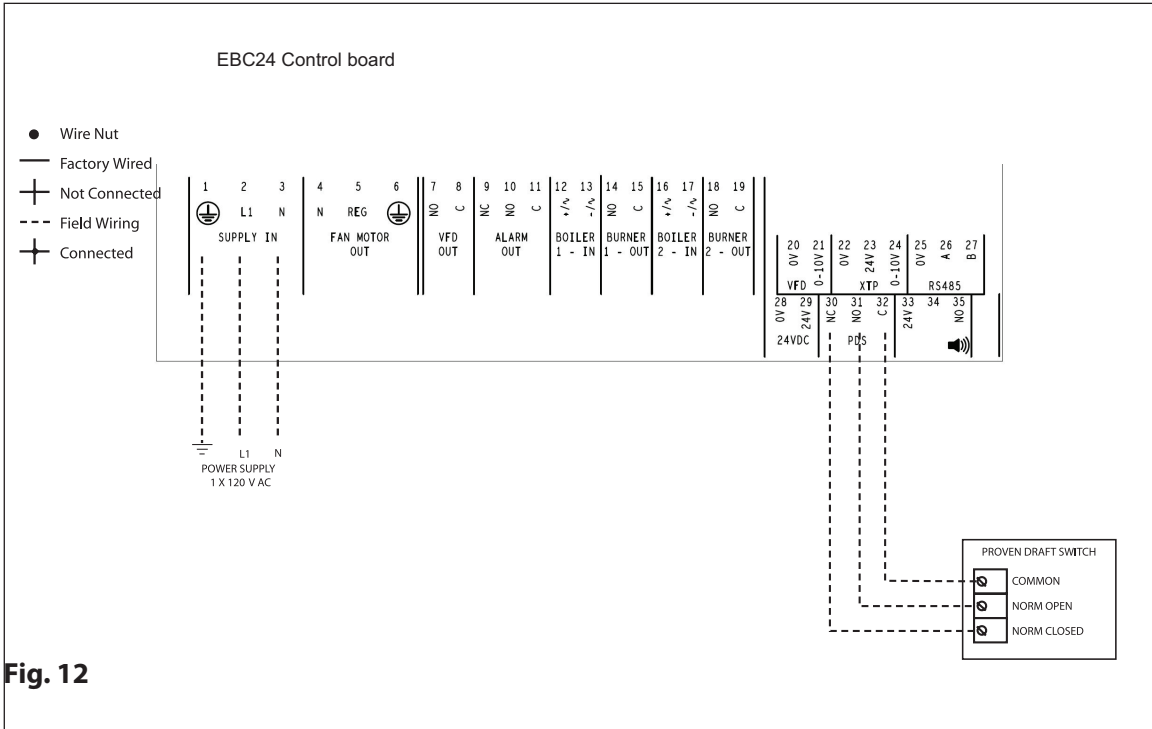

Fig. 12
Fig. 12 shows how to connect a external Proven Draft Switch (PDS) to the EBC24. The external PDS is a backup to the integrated PDS and both must be satisfied by sufficient draft to release the appliance:
- Connect the switch to terminals 30, 31 and 32 as shown on fig. 12.